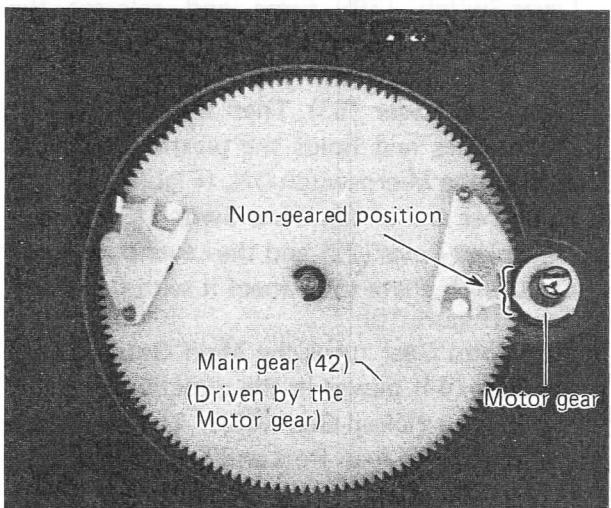

Figure 13
- (7) At the most extended position of the Gear (44), the non/geared position of the Main Gear meets the Motor Gear. The Main Gear (42) stops turning and only the motor (turn-table) keeps turning. (Figure 13)